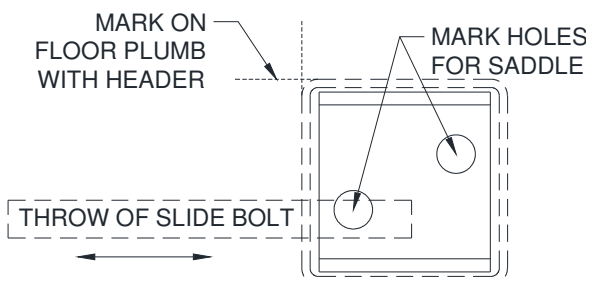

Figure 5.13 – Tube Saddle Hole location
Note: If bottom bar locking is provided, be sure to orient the saddles as not to interfere with the throw of the slide bolt. See **Figure 5.13**.
- Use the mark placed on the floor in the previous steps, to locate where the saddle will be and mark the hole locations by placing the saddle on the floor. See **Figure 5.13**.